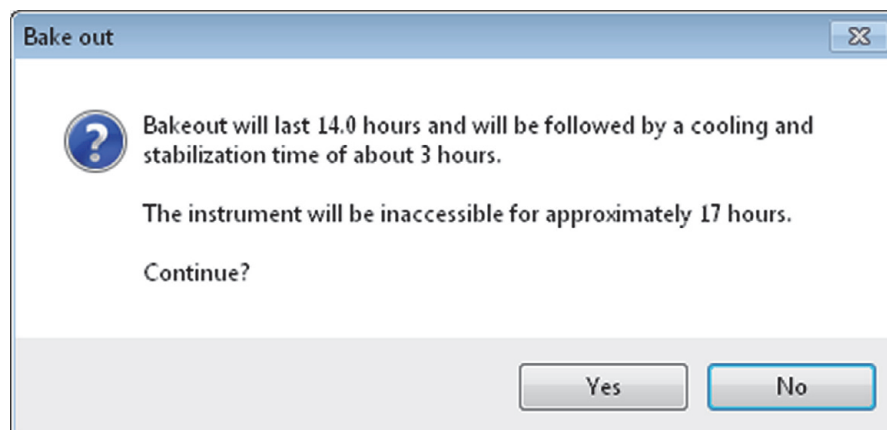

Figure 5-7. Bakeout message box
4. Click **Bake out**. A dialog box shows the duration of the baking procedure. See Figure 5-7. Click **Yes** to confirm the message.